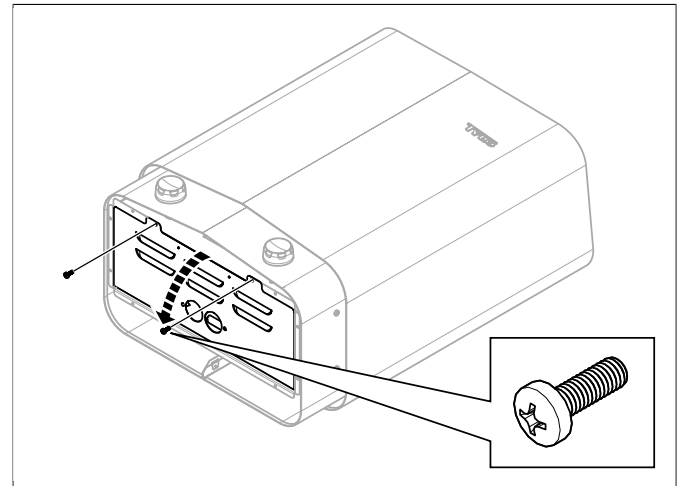

Figure 5: Opening/closing the cover
2. Slacken the screws and open the cover (see **Figure 5**, Page 3).
5. Close the cover and tighten the screws (see **Figure 5**, Page 3).